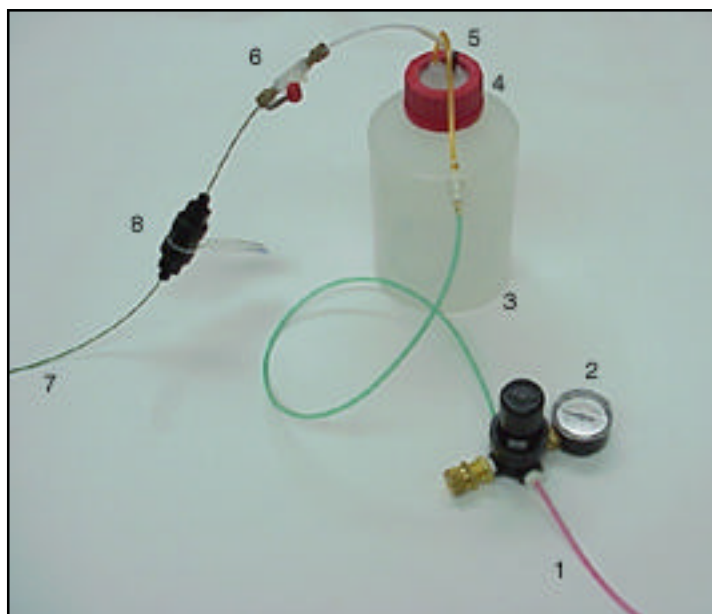
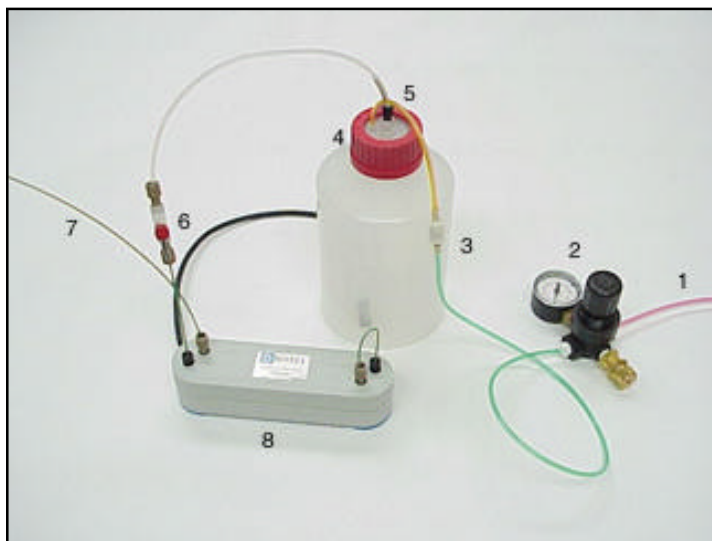

Figure 1
Figure 2
4. Remove the union coupler. In its place, install the device to be treated and direct the liquid to a waste container through the green PEEK tubing. See Figure 1 "Regeneration of a Trap Column using the Trap Column/Suppressor Clean-up Kit" or Figure 2 "Clean-up of a Suppressor using the Trap Column/Suppressor Clean-up Kit" for how to make appropriate connections.